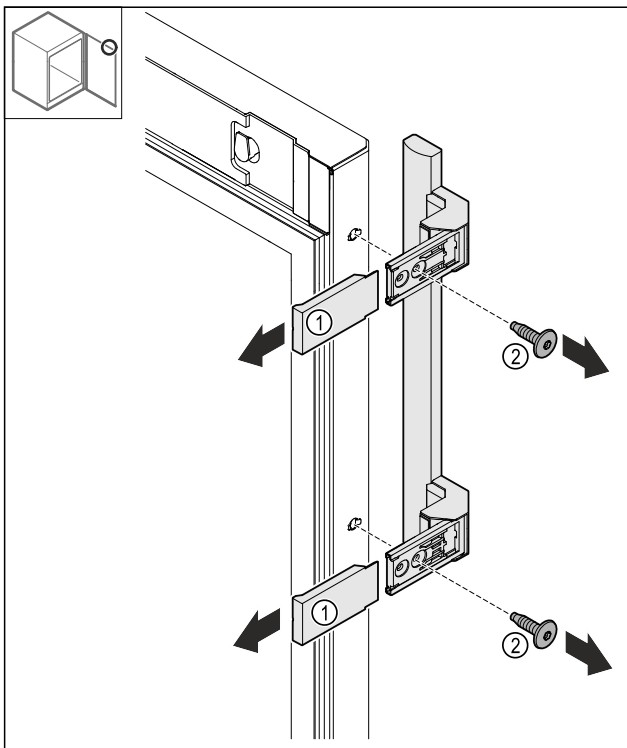

Fig. 25
- ▶ Remove the covers Fig. 25 (1).
- ▶ Loosen the screws Fig. 25 (2).